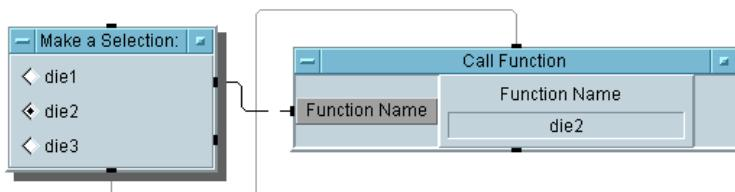

Figure 10-21. The Dice Program (Detail View)
10. Click Device ⇒ Call. Select Add Terminal ⇒ Control Input, then select Function Name, and click OK. The Function Name control pin accepts an Enum or Text value as input. Connect the Radio Buttons data output pin to the Function Name input terminal on the Call Function object. Connect the Radio Buttons sequence out pin to the sequence in pin of Call Function. Click on die2 in Make a Selection: and notice that the Call Function Name changes to die2, as shown in Figure 10-21.